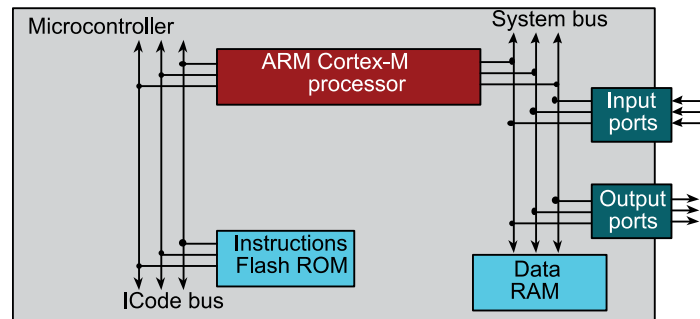

Figure 1. Architecture of an ARM Cortex M microcontroller.
**Architecture** is the manner with which the processor, random access memory (RAM), read only memory (ROM), and input/output (I/O) ports are combined to create the microcontroller. See Figure 1.